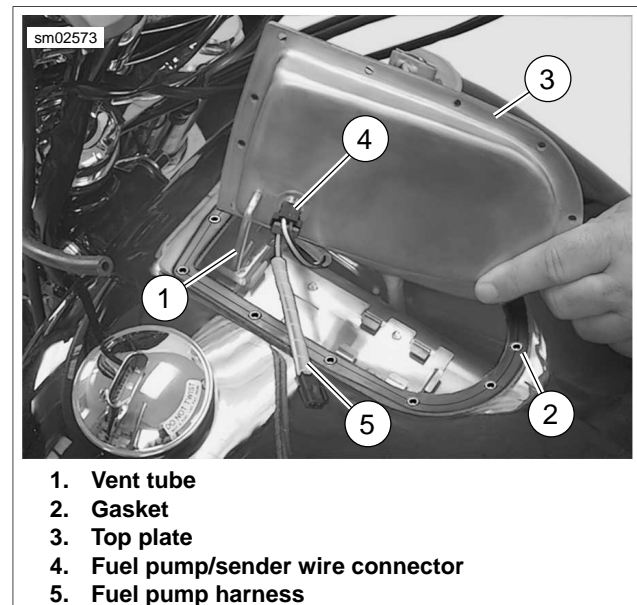

Figure 8-47. Top Plate
1. See Figure 8-47. Place **new** gasket (2) under top plate. Align gasket with screw holes.